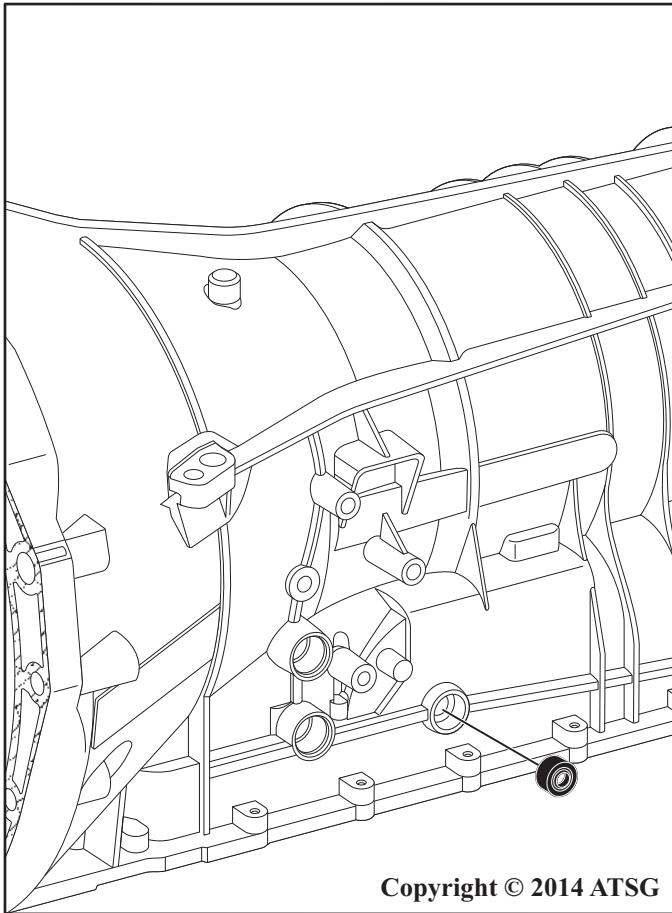

Figure 44
20. Using a small screwdriver, remove the manual control lever shaft seal as shown in Figure 44.